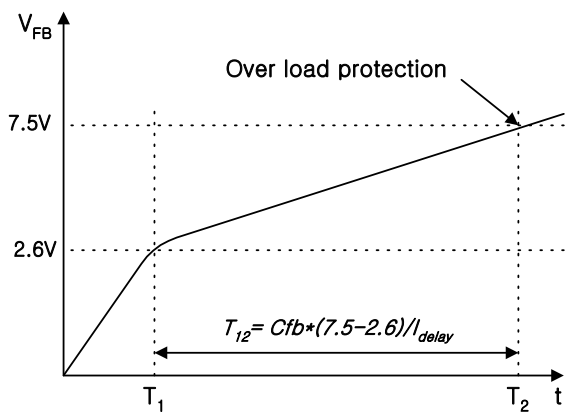

Figure 4. Over load protection
**3.2 Over Load Protection (OLP) :** Overload means that the load current exceeds a pre-set level due to an abnormal situation. In this situation, protection circuit should be activated in order to protect the SMPS. However, even when the SMPS is in the normal operation, the over load protection circuit can be activated during the load transition. In order to avoid this undesired operation, the over load protection circuit is designed to be activated after a specified period to determine whether it is a transient situation or an overload situation. Because of the pulse-by-pulse current limit capability, the maximum peak current through the SMPS is limited, and therefore the maximum input power is restricted with a given input voltage. If the output consumes beyond this maximum power, the output voltage (Vo) decreases below the set voltage. This reduces the current through the opto-coupler diode, which also reduces opto-coupler transistor current increasing Vfb. If Vfb exceeds 2.6V, D1 is blocked and the 5μA current source starts to charge Cfb slowly compared to when the 0.9mA current source charges Cfb. In this condition, Vfb continues increasing until it reaches 7.5V, and the switching operation is terminated at that time as shown in figure 4. The delay time for shutdown is the time required to charge Cfb from 2.6V to 7.5V with 5μA. When Cfb is 10nF (103), T12 is approximately 9.8ms and when Cfb is 0.1μF (104), T12 is approximately 98ms. These values are enough to prevent SMPS from being shut down during transient situations.